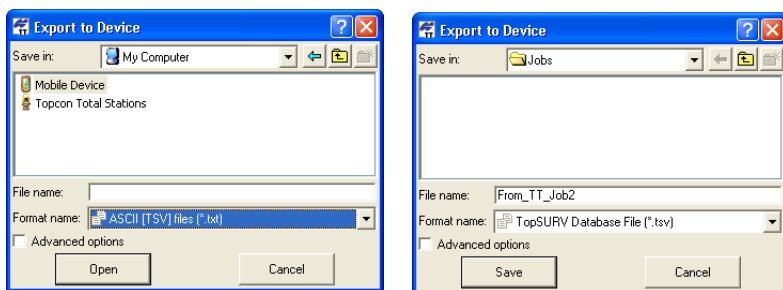

Figure 8-7. Export To Device Window
2. Double-click the *Mobile Device* in the *Export to Device* window (Figure 8-7), select the folder in the TPS Controller where the exported file will be saved. Select the desired file format and enter the name of the creating file. Click **Save** in the *Export to Device Window*.